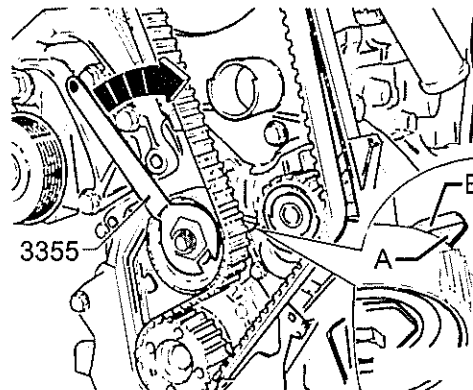

Fig 31 Tensioning camshaft belt
117 To tension camshaft belt, turn tensioner clockwise with ring spanner 800.1.56.004.1 until right edge of pointer (see Fig 31 (A)) is aligned with right edge of pointer (see Fig 31 (B)).
- 127 Check pointer position of tensioner again (see Fig 31). If right edges of pointers (A) and (B) do not align, tensioning must be repeated.